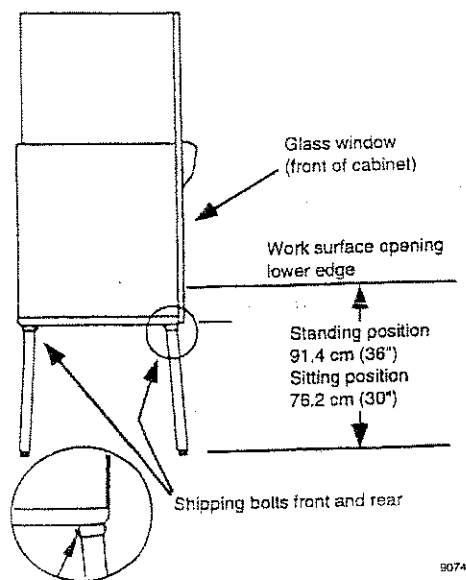

Fig. 2 Adjusting the Telescoping Leg Assembly
3. The unit can be assembled with the work surface either 30" or 36" from the floor according to the needs of the owner. The unit is shipped with the legs extending 6" below the cabinet. If lifting equipment is available, lift the cabinet vertically to a height of approximately 40." All four legs may then be extended to the desired height by removing the four shipping bolts, setting the height of the legs and then securing the legs in position with the four bolts which are supplied with the unit (³/₈" x 2 ³/₄" - see Figure 2). Use a ⁹/₁₆" wrench. The cabinet must be held safely at the 40" height during the entire operation, and set back onto the floor only after all four legs have been secured. Final leveling may